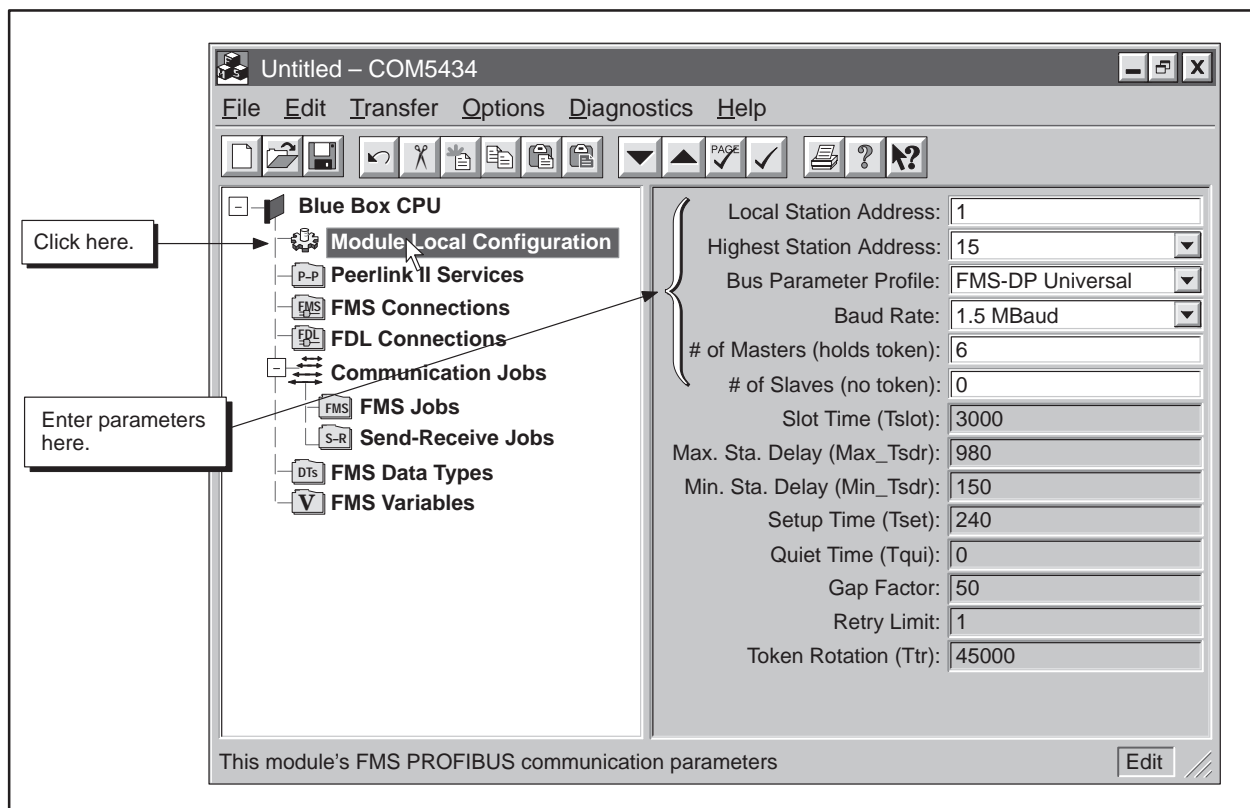

Figure 6-22 Module Local Configuration Example
2. Complete the fields listed below (and shown in Figure 6-22) to define the Module Local Configuration: